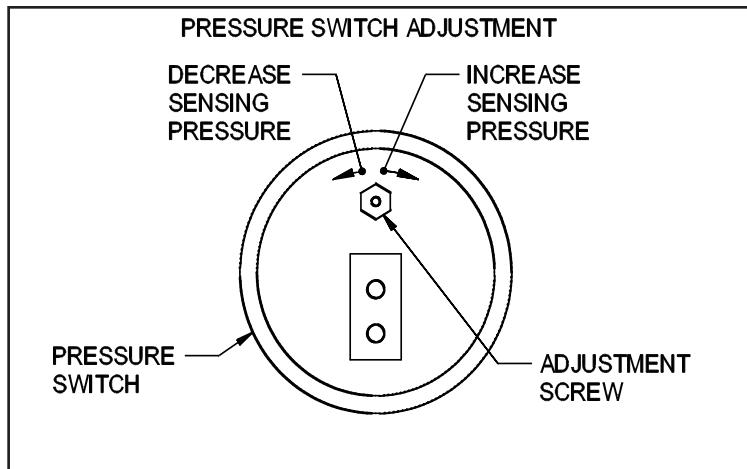

Figure 6
3. Rotate the adjustment screw an additional $\frac{1}{4}$ turn counterclockwise to ensure proper switch setting. (See Figure 6)